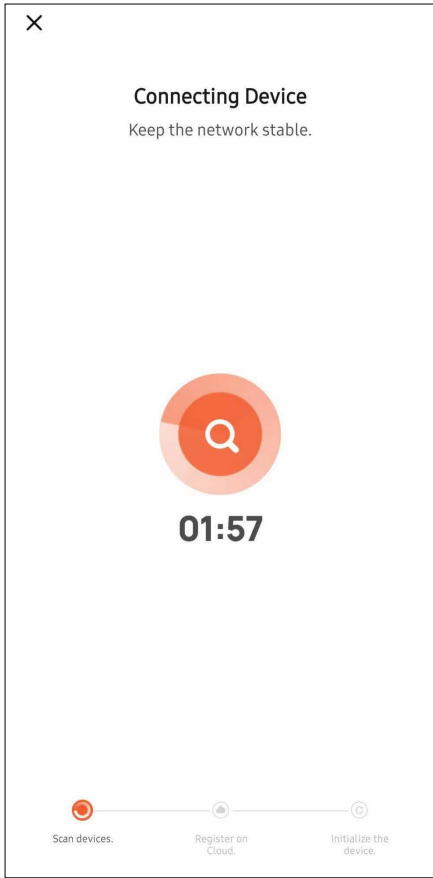

Figure 18
- 8 Allow the device to connect to network. (Fig.18)